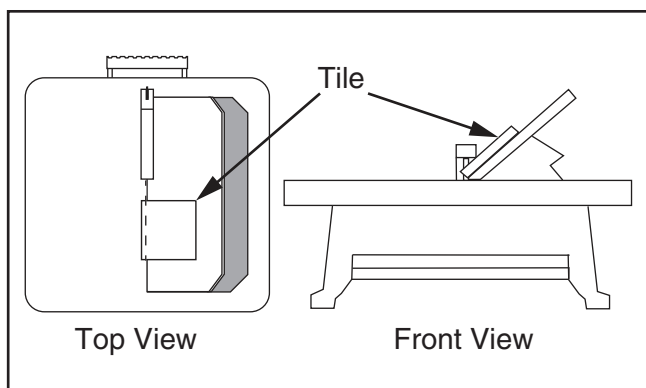

Figure 29. Tile ready for bevel cut.
7. Ensure blade is wet, then push tile through cut with a push stick or some other type of workpiece support (see **Figure 29**).